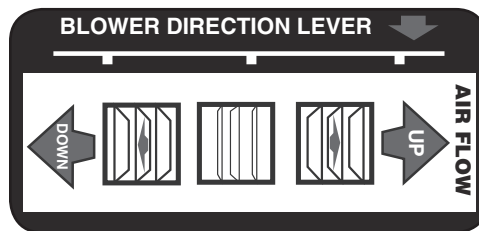

Figure 3-3
2. Move the lever to the left to direct airflow downward or to the right to direct airflow upward. See Figure 3-3.